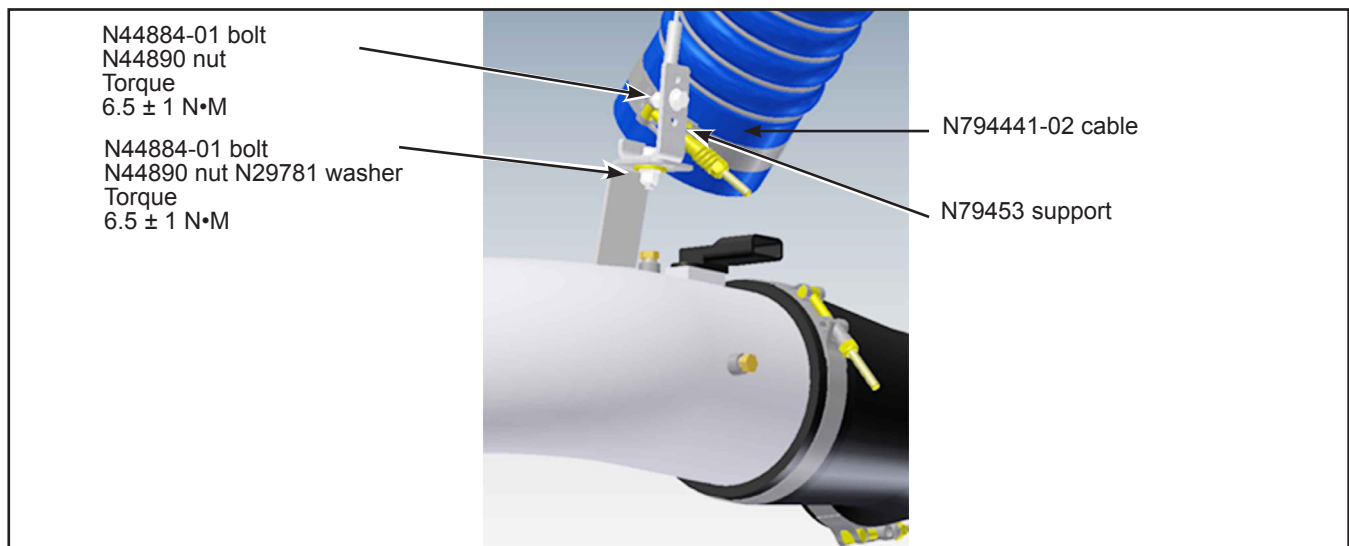

Figure 3 - Lower Support Installation
- 1.6. Install plumbing type Teflon tape onto the engine air intake hose beside the turbo compressor flexible pipe. See Figure 3.